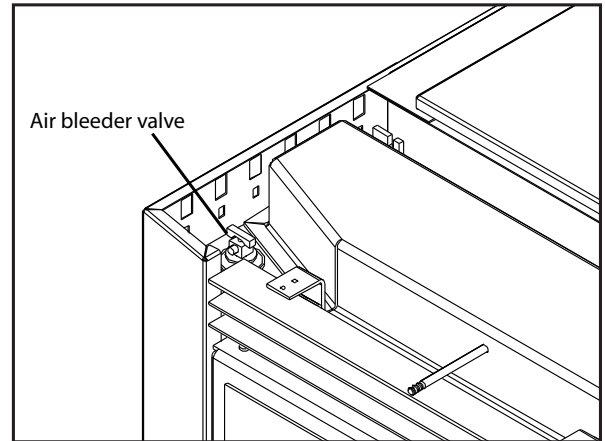

Figure 3
**Air Bleeder Valve** (shown in Figure 3):